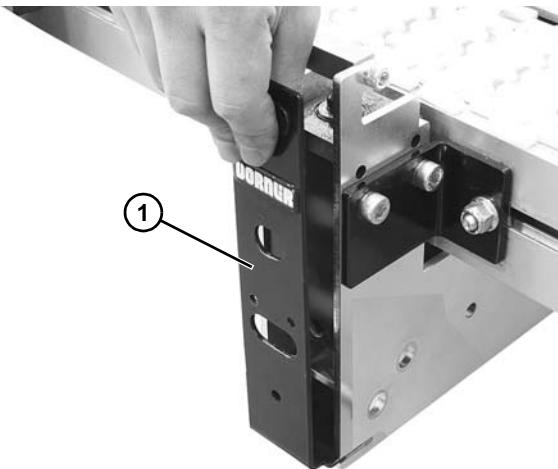

Figure 19
- b. Remove side cover (**Figure 19, item 1**).